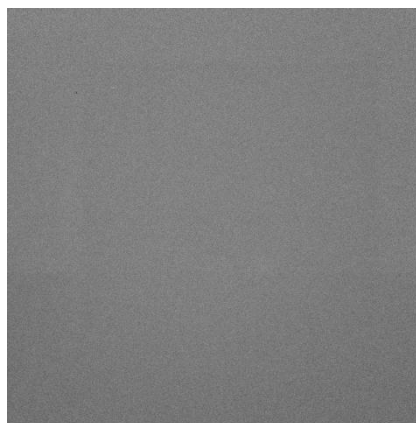

Figure 3-23
e) The calibrated image is shown in Figure 3-23.